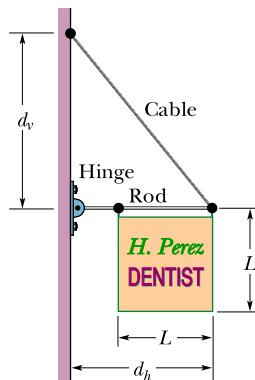

Figure 12.32 Problem 30.
**30 M GO** In Fig. 12.32, a  $50.0 \text{ kg}$  uniform square sign, of edge length  $L = 2.00 \text{ m}$ , is hung from a